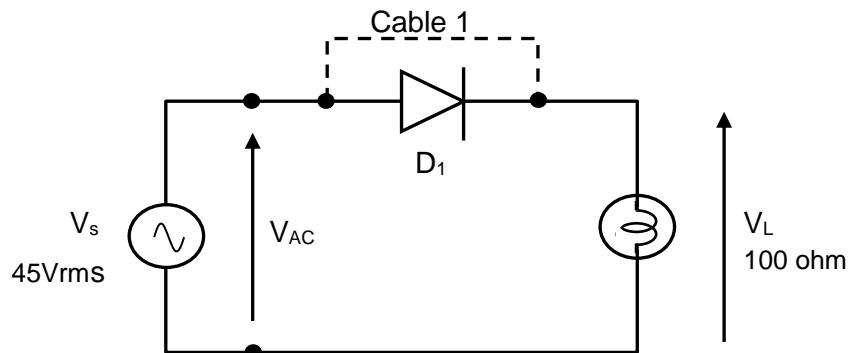

Figure 2.5 - Single-phase half wave uncontrolled rectifier circuit
1. Set up the circuit as shown in Figure 2.5.